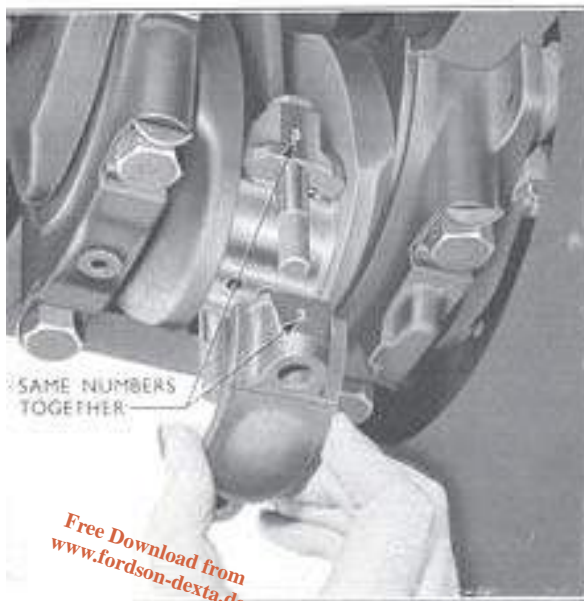

Fig. 22
The numbers are stamped on the left-hand side of the big end (opposite side to crankshaft) so that a cap replaced with the numbers together must be in the original position (see Fig. 22). Never reassemble the cap to the connecting rod incorrectly otherwise a true bearing surface cannot be assured.
10. Locate the lower half of the big end bearing liner in the cap with the tongue registering in the machined recess, and refit the cap with the stamped numbers together (see Fig. 22), and the liner smeared freely with clean oil.